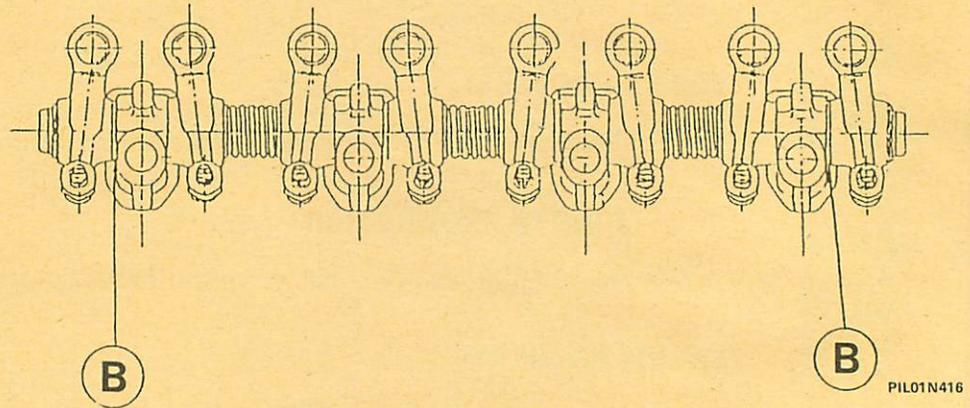

**FIGURE 1**
- Remove rocker arms 1-8 from the shaft (A in figure 1).